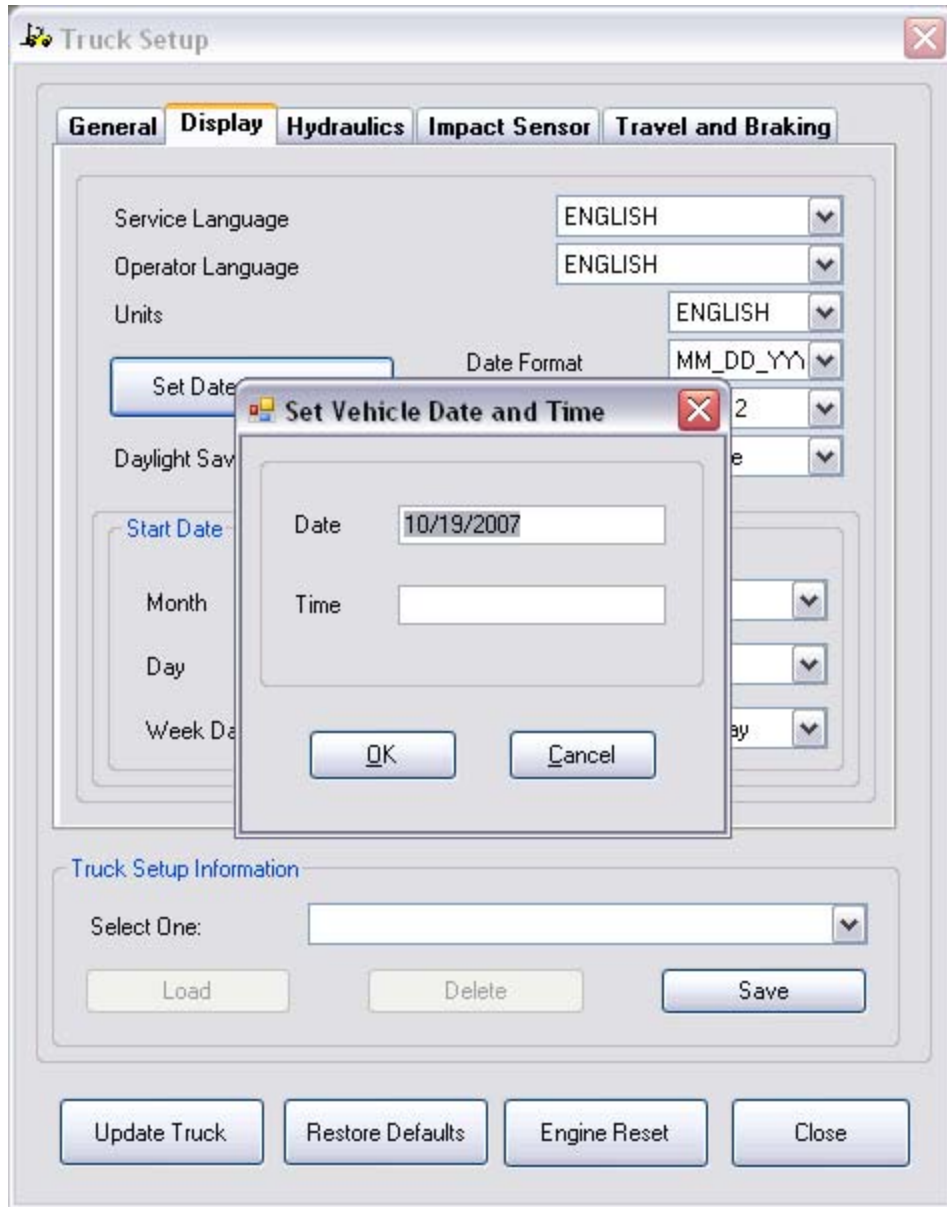

Figure 33: Truck Set-up window highlighting the Display tab
2. Select **Display** tab from the **Truck Configuration** window. This displays the screen shown in Figure 33: